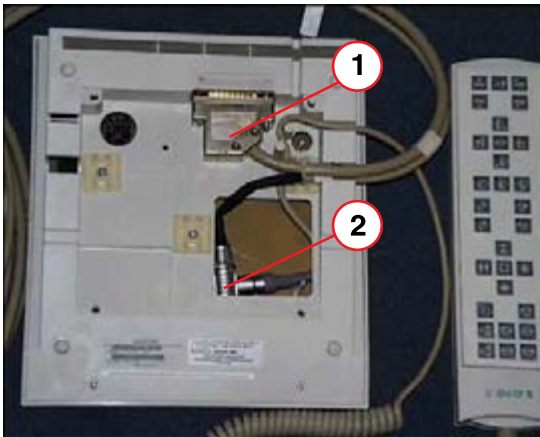
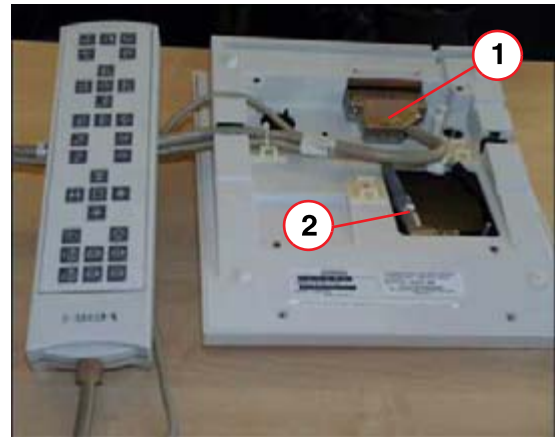

Fig. 67: Cable layout in the control panel
Fig. 68: Cable layout in the control panel
- Open the back cover of the control panel and connect the cable coming from module M1 (unit) as labeled (Fig. 67 / p. 62).
The cable layout in the control panel depends on the cable supply (1/Fig. 67 / p. 62); (1/Fig. 68 / p. 62).
- Connect the second tableside control (optional), if available, and place it on the control panel (2/Fig. 67 / p. 62); (2/Fig. 68 / p. 62).